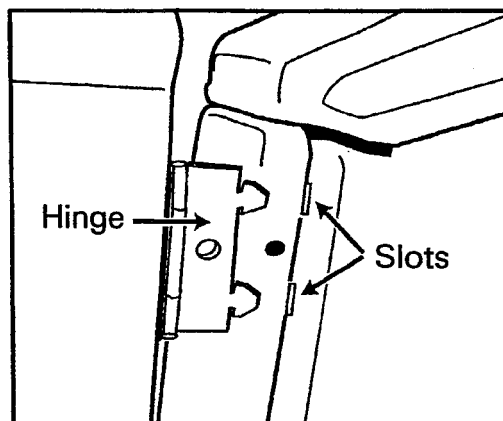

Figure 2-14
2. Grasp the door with both hands and lift the hinge area slightly. Draw the door assembly away from the machine. This will disengage the hinges from the slots in the front shroud (*Figure 2-14*). If the hinges bind, press in on the plastic shroud near the hinge toward the cabinet.